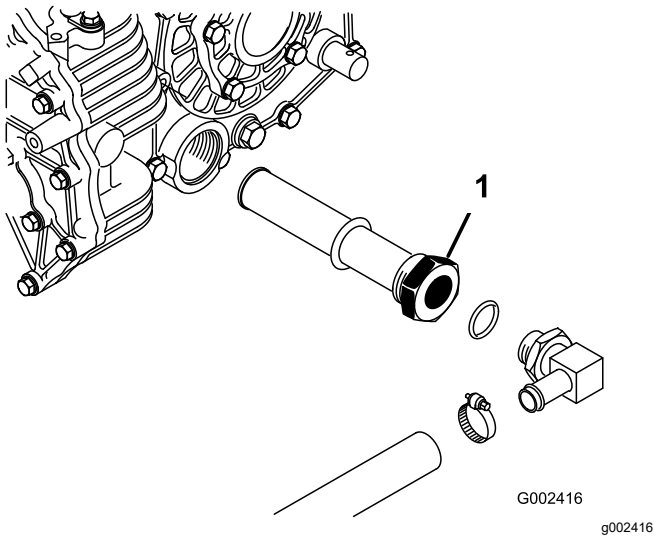

**Figure 72**
2. Remove the drain plug from the side of the reservoir, and let the hydraulic fluid flow into a drain pan (Figure 72).